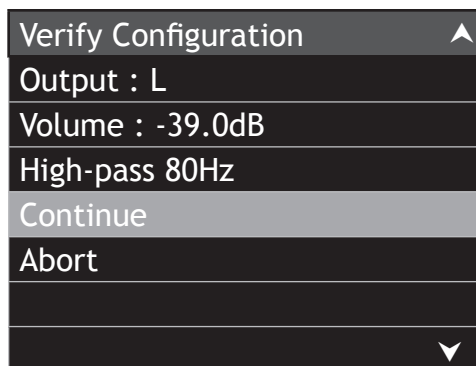

Figure 19A
9. To verify all channels in the Home Theater System are functioning, use the ▼(down) Push-buttons to highlight the “Verify Current Setup” option in the “Speaker Configuration” Menu. Refer to figure 14 on page 23. Then press the SELECT Push-button. Refer to figure 19A.